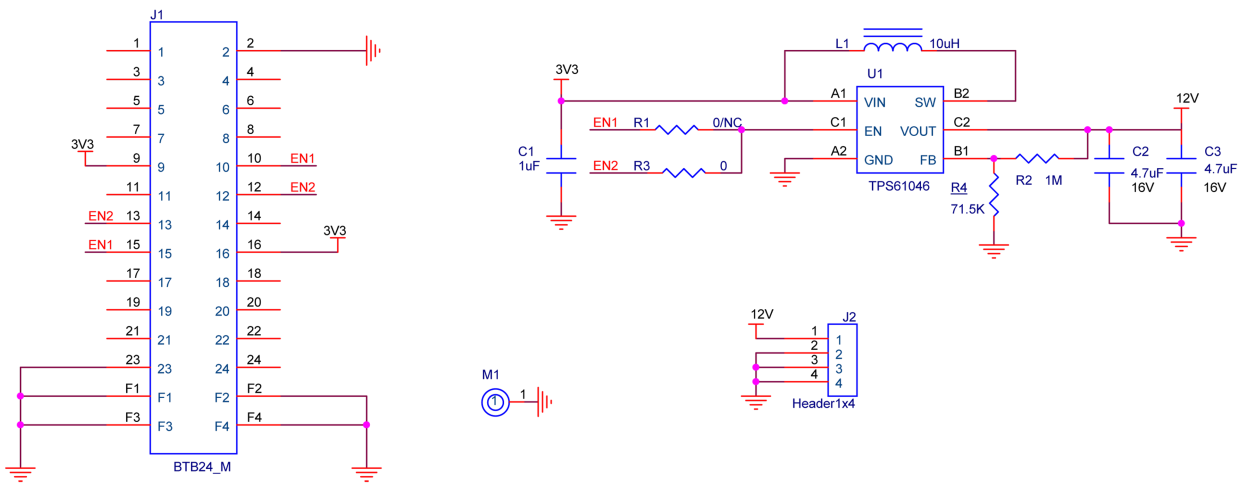

Figure 7: RAK19002 WisBlock Boost Module Schematic
- Connect R1 or R3 resistor to select the **IO** pin. Check the schematic diagram in **Figure 7**.
Figure 7 shows the schematic of RAK19002 boost module.